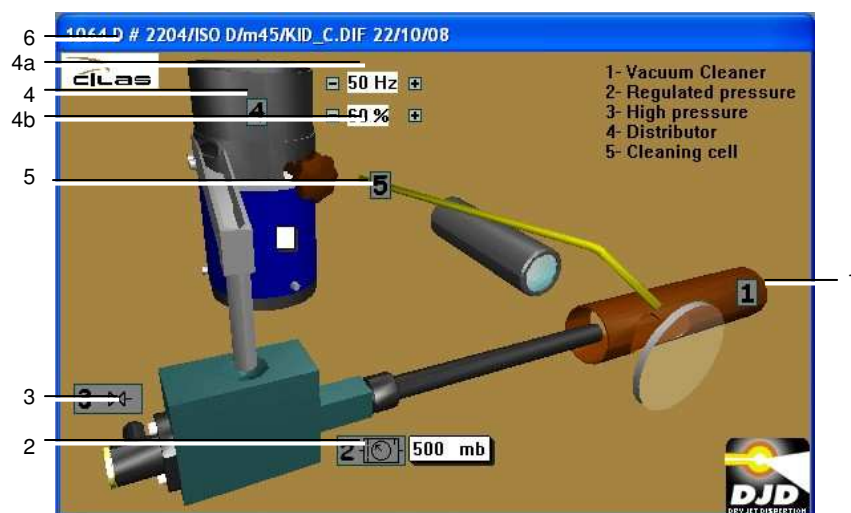

Figure 36: startup display in dry mode .
Putting a checkmark beside *Vacuum cleaner system* and/or *Pressure* activates the external vacuum cleaner system and the pressure regulator respectively at the entry to the funnel (Figure 36, ref. 2) during the Background measurement.
When *Pressure* is checked, the pressure regulator at the entry to the funnel (Figure 36, ref. 2) is activated with a set level specified on the right.